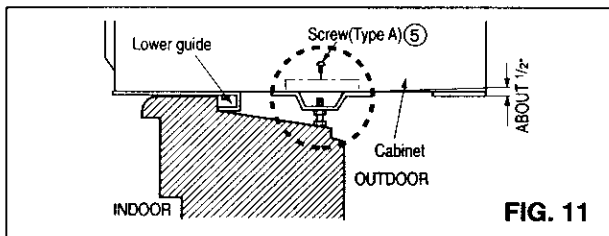

FIG. 11
- 9** Select the position that will place the sill supports near the outer most point on sill (FIG. 11). Attach the sill supports to the cabinet track hole in relation to the selected position using TYPE A screw (5).